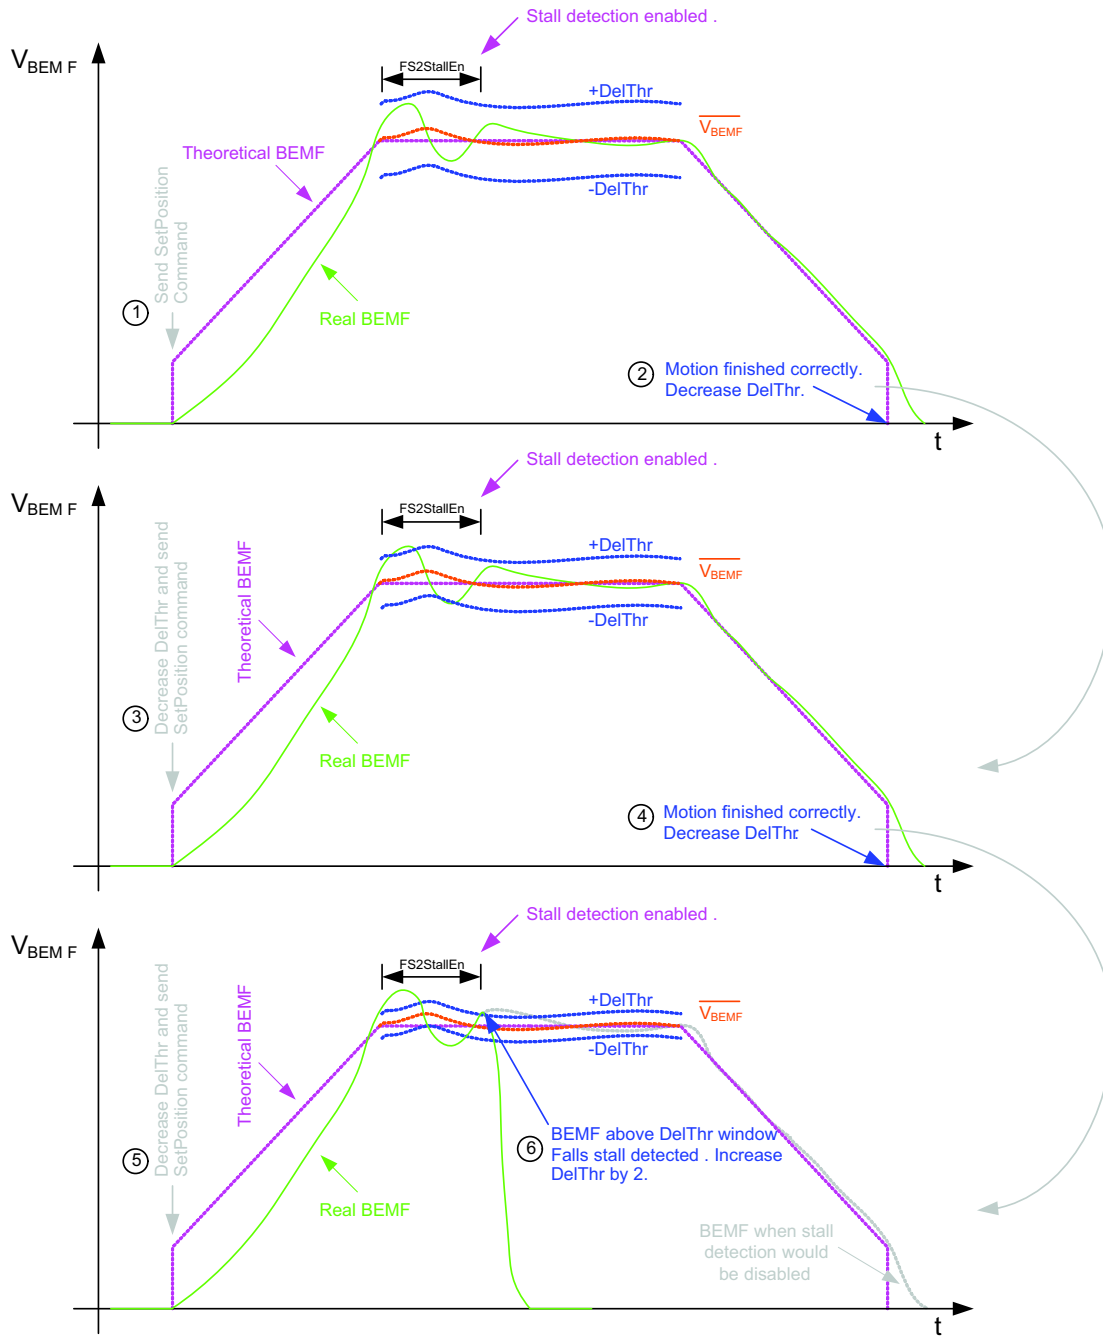

Figure 39. Define DelThr for a Non-Free Running Motor
- Step 4b: Set DelThr to the maximum value and do a SetPosition. If the motion was completed correctly, decrease DelThr by one and repeat the SetPosition. Do this until a stall was detected without hitting an end position (= falls stall). If falls stall is detected, the DelThr value is set too high. Increase the (hexadecimal) value by 2 (if possible) to have a good DelThr setting. Figure 39 gives a better view on this.